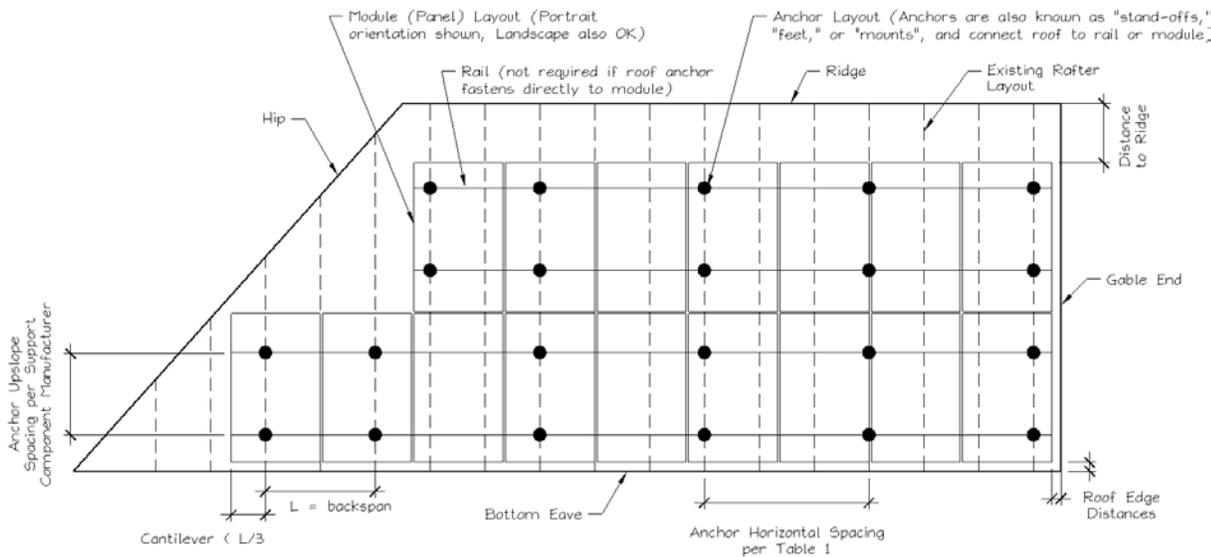

Figure 2. Sample Solar Panel Array Layout Diagram (Roof Plan)
C. Does the array cover no more than half of the total roof area (all roof planes)? Y ND. Are solar support component manufacturer's project-specific completed worksheets, tables with relevant cells circled, or web-based calculator results attached? Y NE. Is a roof plan of the module and anchor layout attached? (see Figure 2) Y N
- 1) Proposed anchor horizontal spacing (see Figure 2): _____' - _____"ft-in
- Anchors are also known as "stand-offs", "feet", "mounts" or "points of attachment". Horizontal anchor spacing is also known as "cross-slope" or "east-west" anchor spacing (see Figure 2).